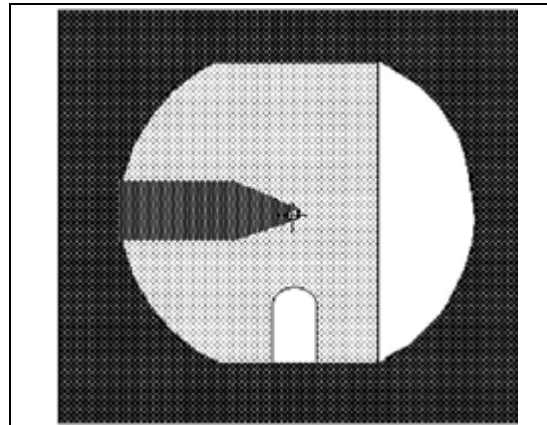

Fig. 4: Pointer
- Readjust the pointer and then briefly release fluoroscopy until it is displayed on the monitor as shown in (Fig. 4 / p. 10).